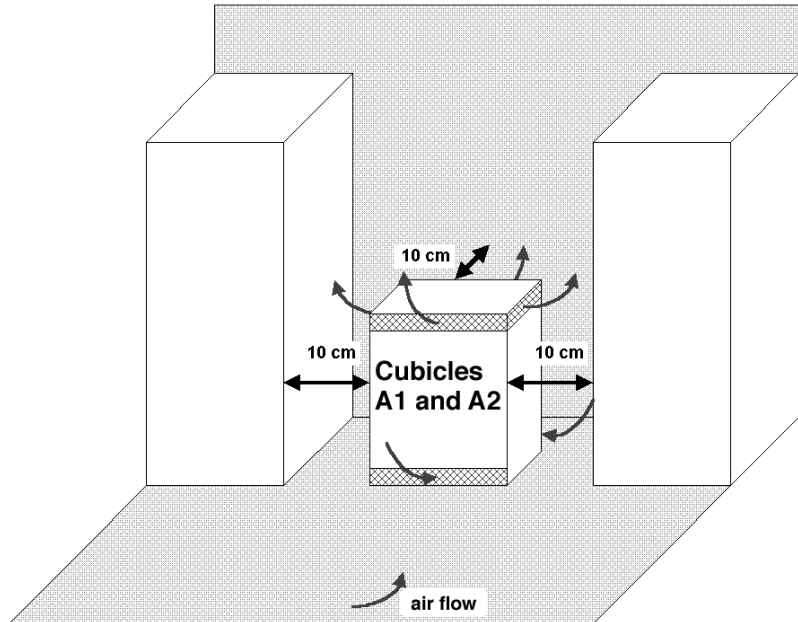

Fig. 6 Cubicles A1 and A2
■ Place the device so that the ventilation outlets are unobstructed : leave a space of 10 cm between the banks and the wall (see page 16, fig. 6 and 7).